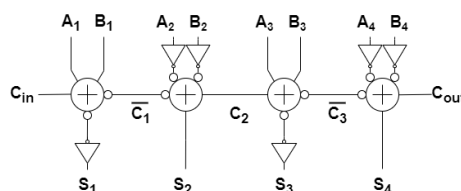

Fig 1. 4-bit carry-ripple adder
1. A 4-bit ripple adder is designed with a Fully Complementary Static Logic Gate for FA as shown in Fig.1 . Input signals are A[3:0], B[3:0], and Cin which are provided by a unit size inverter (PMOS is sized to be 2 times of the minimum sized NMOS) and outputs are Sum[3:0] with the loading of 4 unit size inverters connected in parallelism (FO4). You shall provide SPICE simulation results of timing and power waveforms.
(4) Add one pipelining stage using the designed D register into the 4-bit ripple adder as shown in Fig.1(b). Run SPICE to find the propagation delay time (with the pattern from 000011110 to 000011111 (A[3:0]@B[3:0]@Cin) between pipelining stages to determine the maximum working frequency of the clock with the delay time estimated by SPICE for VDD=1.0 V. (20%)